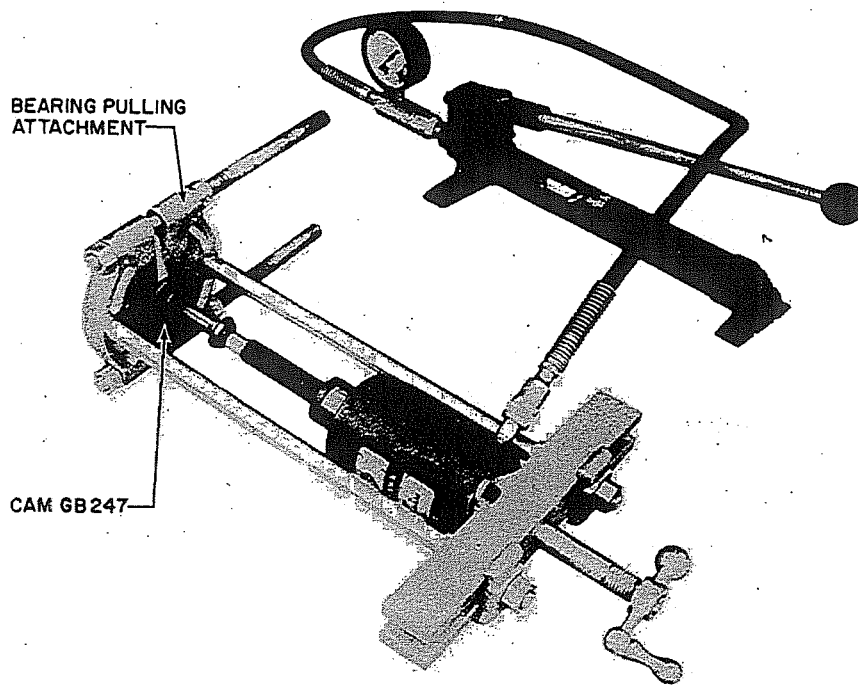

Figure 45. Detector, Installation of Cam GB247
- U. Secure the bearing pulling attachment behind Timing Cam GB247 and press it onto Shaft GB256 until it positions against Washers GB246 (figure 45). Lubricate the entire length of the shaft prior to this operation.